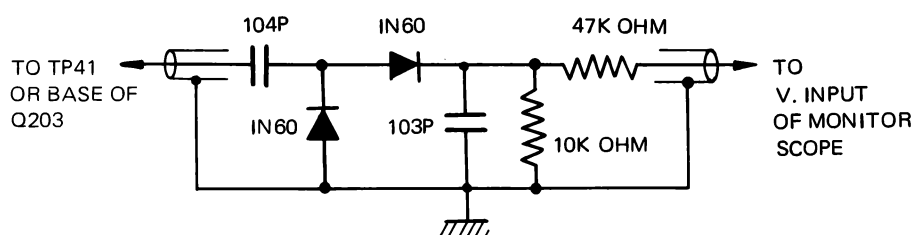

Figure 28. Detector Probe
5. Connect the monitor scope with detector probe to base lead of Q203. (Figure 28)
5. Connect the monitor scope with detector probe to TP-41 on chroma board. (Fig. 28)